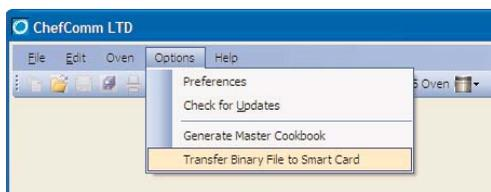

Figure 33: Transfer Binary File
1. In ChefComm, go to **Options > Transfer Binary File to Smart Card** (Figure 33).